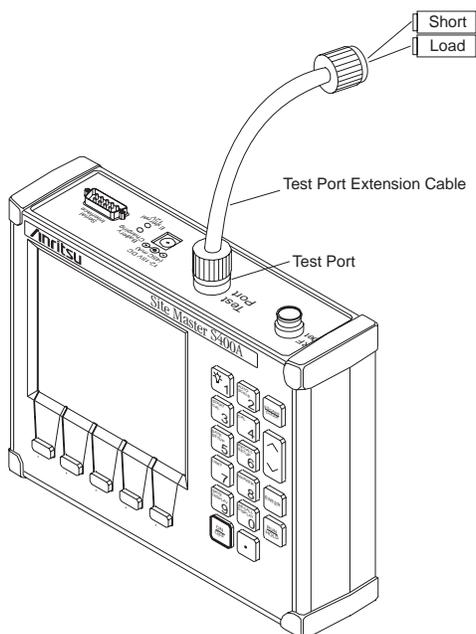

Figure 3-4. Cable Measurement Test Setup
- Step 13.** Connect a Load at the other end of the cable as shown in Figure 3-4.
Step 17. Connect a Short at the other end of the cable as shown in Figure 3-4, page 3-12.